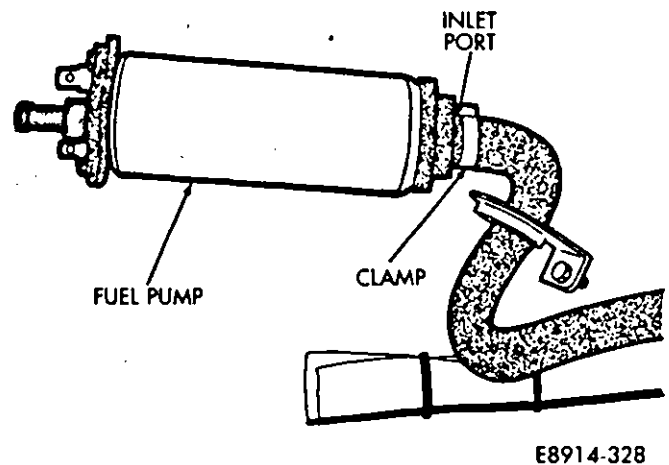

Fig. 20—Fuel Inlet Port Hose
(6) Disconnect hose clamp at inlet port of fuel pump (Fig. 20).
(3) Connect the hose to inlet port of the fuel pump and secure with hose clamp (Fig. 20).